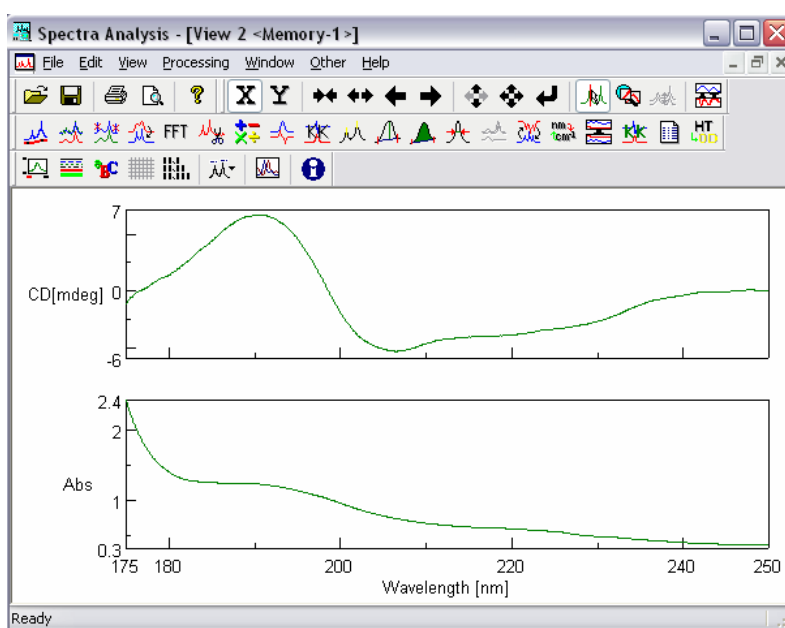

Figure 7.11 Spectrum View for G-value calculation
- (1) Load a JASCO standard or JASCO Old Std file into the Spectra Analysis Window following the procedure described in Section 7.2. In this case, the loaded spectra is an Abs spectrum (see Fig. 7.11).
**Note (1):** G-value calculation needs an Abs spectrum. So, the loaded spectrum must include an Abs spectrum. Do not forget this.
**Note (2):** The Abs spectrum must be baseline corrected. If not, the G-value will be incorrect.